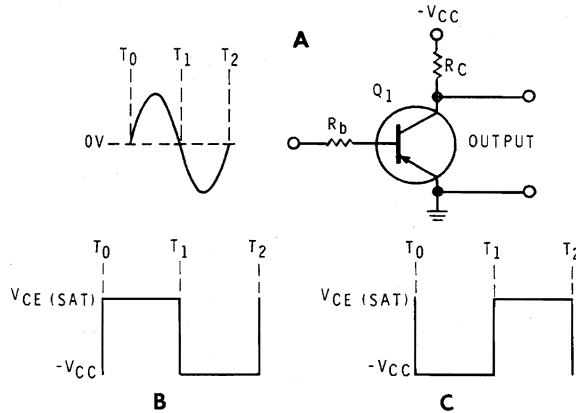

Figure 6-21
19. (C.) A transistor can also be used for clipping purposes. A transistor clipper which employs a PNP transistor is shown in Figure 6-21. This transistor cuts off when the base voltage swings
23. ( $V_{CE(SAT)}$ ) Thus, the output voltage will appear as shown in Figure 6-21 \_\_\_\_\_.